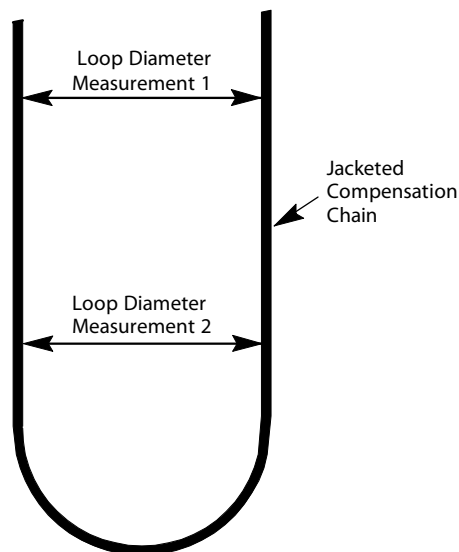

Figure 14 - Loop Diameter
1. Measure the following two (2) horizontal distances between the compensating chain. See Figure 14.